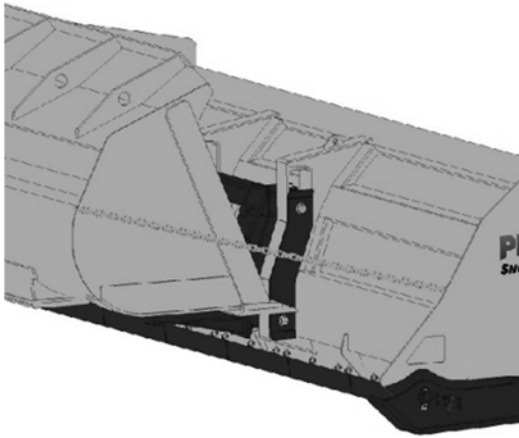

Figure 3a
2. Attach one section of transport chain to the right side of the Sno Pusher using a 3/8" clevis. (Figure 3a)